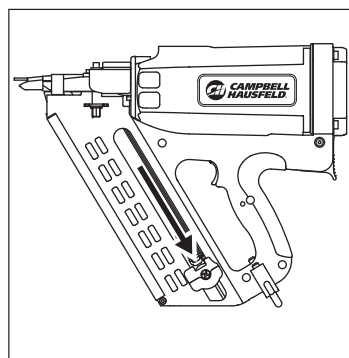

Figure 16
1. Pull the fastener pusher to the bottom of the magazine until the fastener pusher is locked in place (see Figure 16).